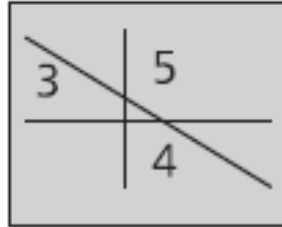

Fig 4
1.5 Check the chalk lines are square with each other. In a small area use a set square to check, but in a large area make use of the 345 method as shown below. **Refer to Fig 4.**